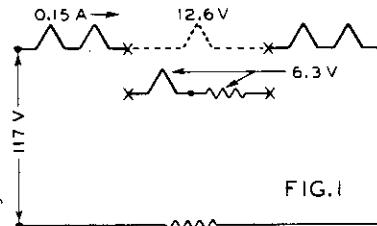

FIG. 1
**FIG. 1—To substitute a 6.3 v. 150 ma. type for a 12.6 v. 150 ma. type.** calculate value of the resistor to be added in series with the 6.3-volt heater. Using the formula  $R=E/I$ , we have